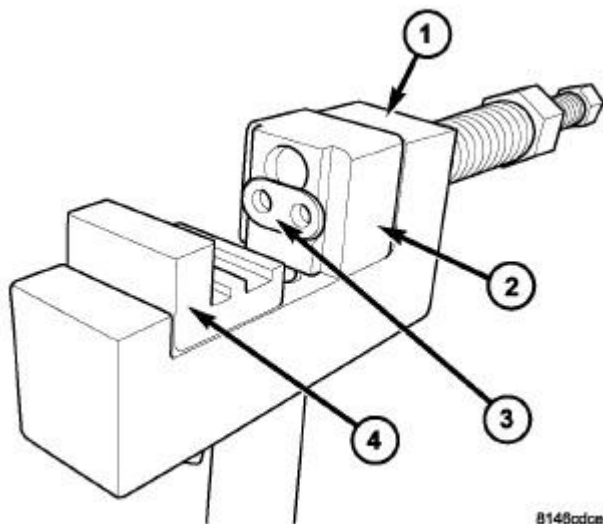

Fig. 301: LINK PLATE INSTALLER
6. Assemble special tools 9312-1, 9312A-7, 9312-10 and install on new timing chain. See **Fig. 301** .